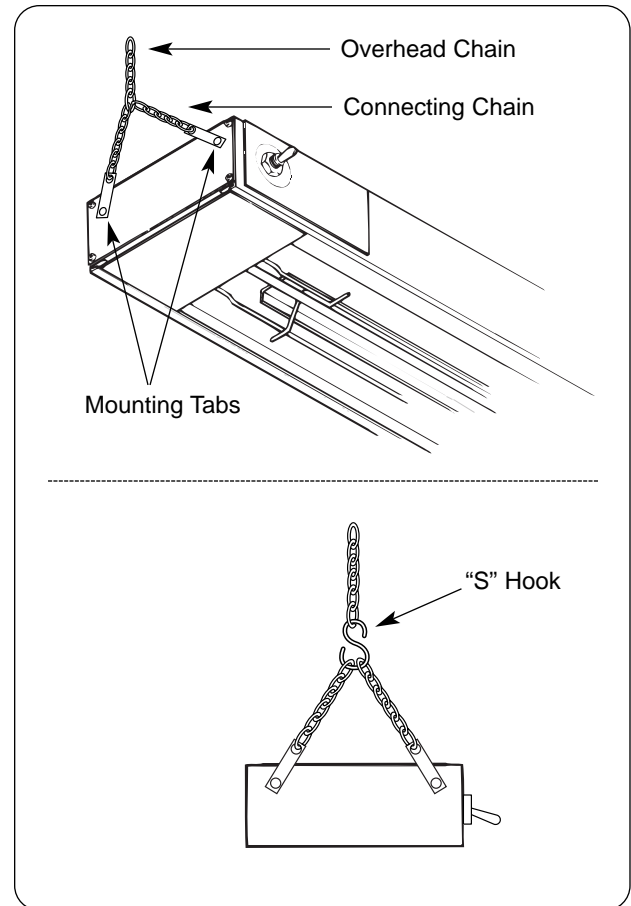

Figure 19. Mounting with Chains
2. Loosen but do not remove the screws securing the mounting tabs on each end of the unit. Extend the tabs, then tighten the screws securely. (See Figure 19.)
3. Attach a short piece of connecting chain to each pair of mounting tabs. (See Figure 19.)
4. Attach overhead chain to the connecting chain between the two mounting tabs. Repeat for other end of unit. (See Figure 19.)
2. Attach both “S” hooks to the overhead chains and ensure the unit is level. (See Figure 19.)